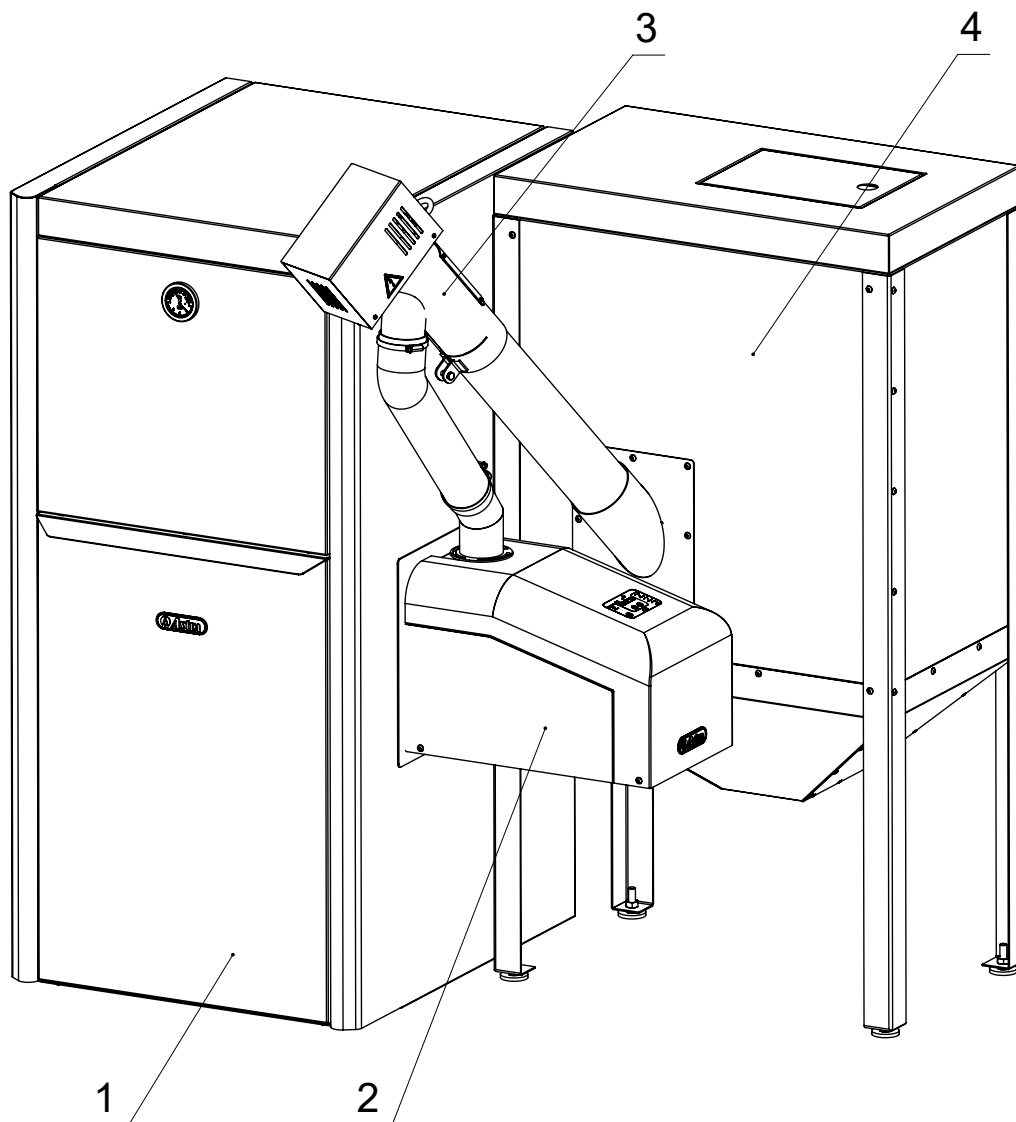

Fig. 1. Boiler components
Wood pellets from the bunker (Fig. 1 pos. 4) rise in the auger pellet conveyor (Fig. 1 pos. 3) and in a flexible hose descend to the burner (Fig. 1. pos. 2), where they are burnt.